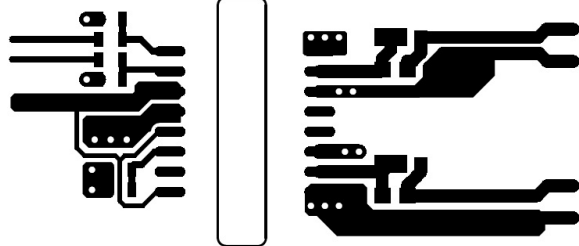
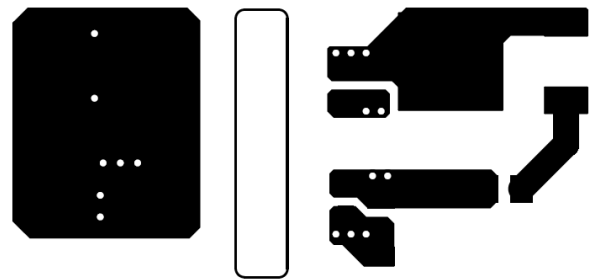

图 11-2. Top Layer Traces and Copper
图 11-3. Bottom Layer Traces and Copper
- Increasing the PCB copper connecting to VDDA, VDDb, VSSA and VSSB pins is recommended (See Figure 11-2 and Figure 11-3). However, high voltage PCB considerations mentioned above must be maintained.
图 11-2 and 图 11-3 shows top and bottom layer traces and copper.